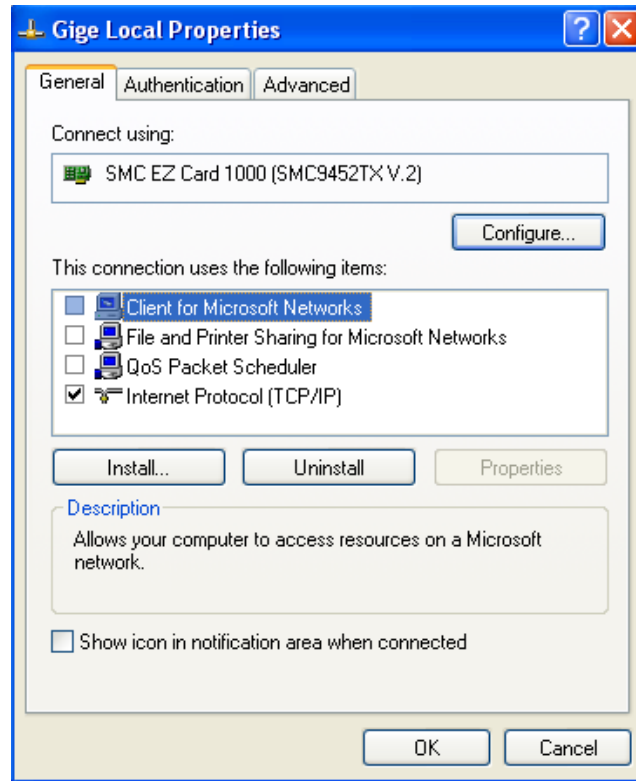

Figure 8. Network card main properties window.
- Open the Network Connections Dialog as follows: From the Windows desktop select *start*, then select *Control Panel*, then double click on the *Network Connections* icon. Double click the relevant network card listed or right-click the relevant network card and select *Properties*. This will open the properties window for your network card. See Figure 8.
- From the main properties dialog as in Figure 8, make sure that only the *Internet Protocol (TCP/IP)* check box is selected then click **OK**. The card is now optimized for use with the Prosilica camera.